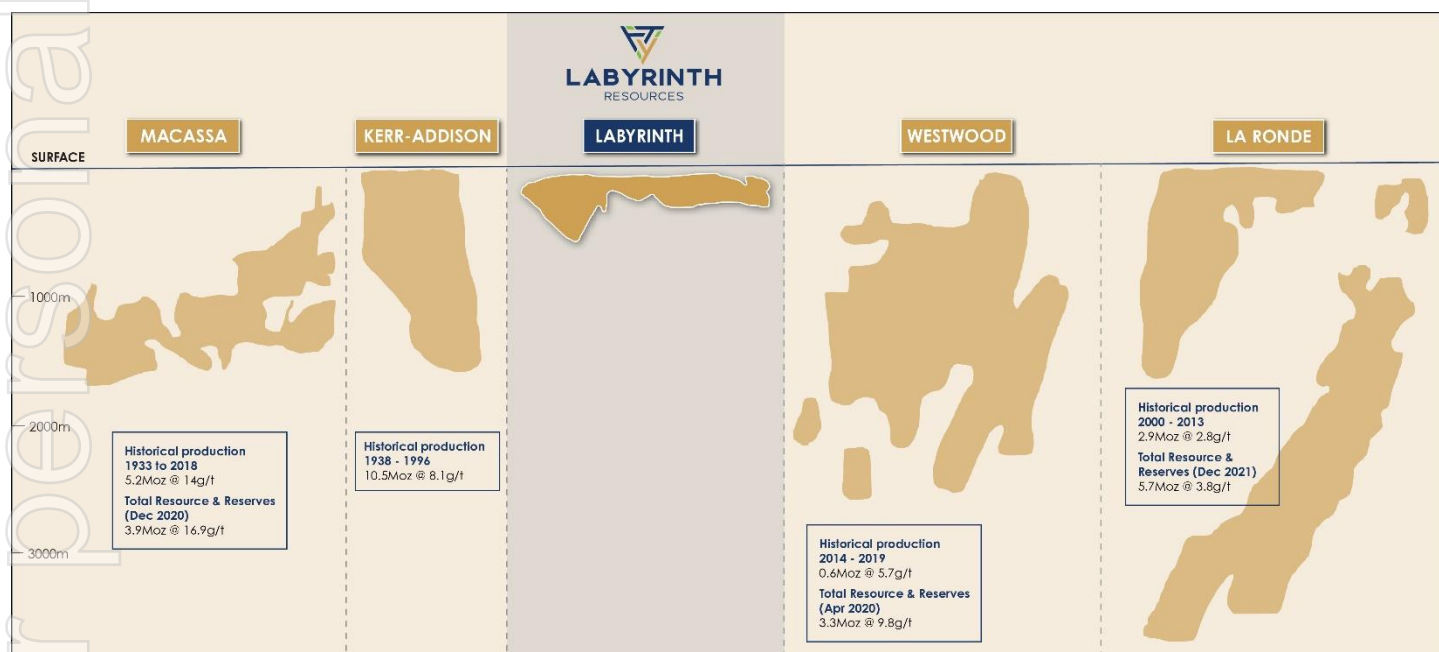

Figure 2 - Significant Gold Projects within 100km radius of Labyrinth¹
- Labyrinth only shallowly drilled in comparison to other significant projects in the region which are host to multi-million ounce deposits (refer Figure 2)